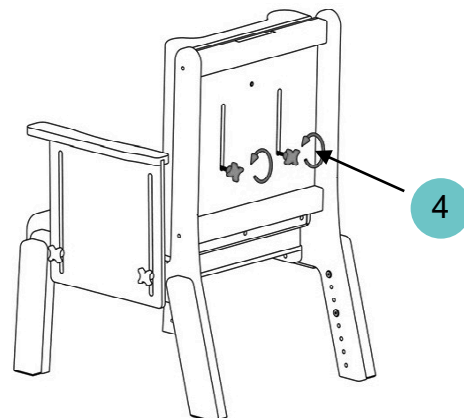

Figure 5
- Loosen handwheels (Ref. 4 of Figure 5)
- Tighten handwheels (Ref. 4 of Figure 5) when the back cushion is set to the desired position